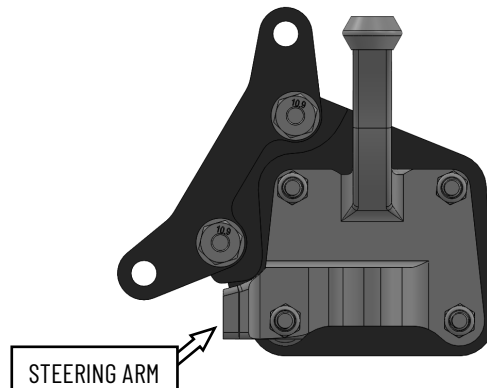

Figure 4. Intermediate bracket installed (inboard view)
7. Install the intermediate bracket to the inboard side of the base bracket using the supplied M12-1.75 bolts and washers. Simply tighten the bolts for now as they will likely require removal to shim the intermediate bracket during the shimming procedure. See Figure 4 below for reference.